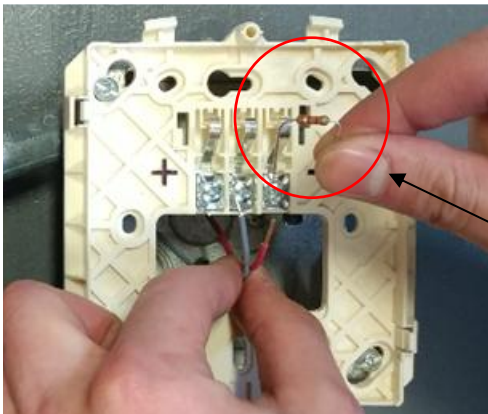

Figure 12.3
5. See **Figure 12.3** Disconnect **RED** and **GRAY** wires and remove end-of line resistor from base plate. **IMPORTANT: DO NOT DISCARD END OF LINE RESISTOR**